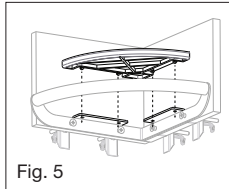

Fig. 5
9. Attach plastic shelf onto shelf bracket and ensure the plastic pegs snap into the holes on the support bracket. **(Fig. 5)**
16. Attach plastic shelf onto shelf bracket and ensure the plastic pegs snap into the holes on the support bracket. **(Fig. 5)**